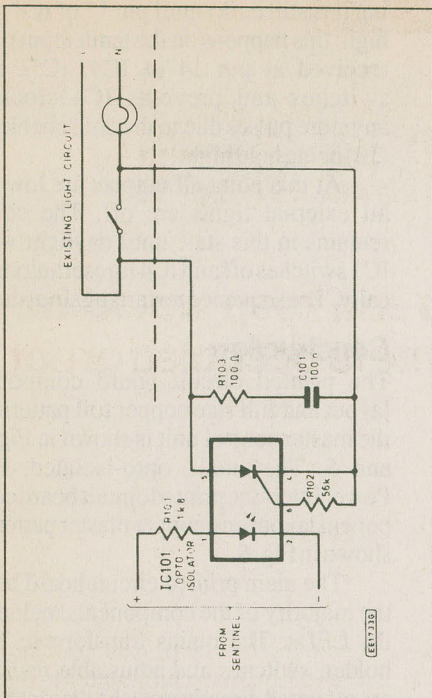

Fig. 2. The circuit diagram for the half-power option.
The full circuit diagram of the Light Sentinel is shown in Fig. 2 and the Half Power Interface in Fig. 3. When the unit is first switched on, during daylight conditions, the output from pin 3 of IC1 is low (0). This is coupled via IC5a to give a 1 (high) on pin 13 of IC4 and via IC5a and IC5d to give a 0 on pin 15 of IC4 which as a result is held in its reset state. At this point LED D3 is lit.